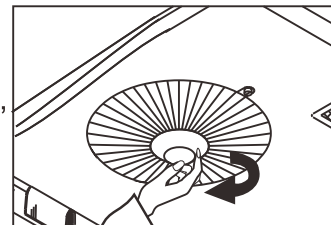

Fig. 4-1
- a. Remove the dripping oil cup and oil collector. (ref. Point 1 and 2) (fig 4-1/4-2)